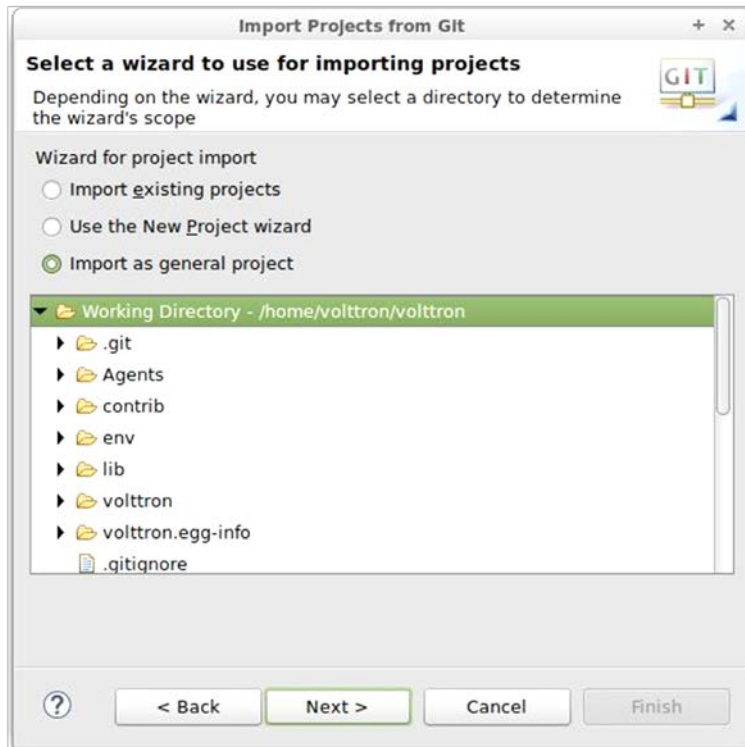

Figure 67: Checking Out VOLTTRON with Eclipse from GitHub (continued)
7. Select Import as general project, select Next, then select Finish (Figure 67), the project will now be imported into the workspace